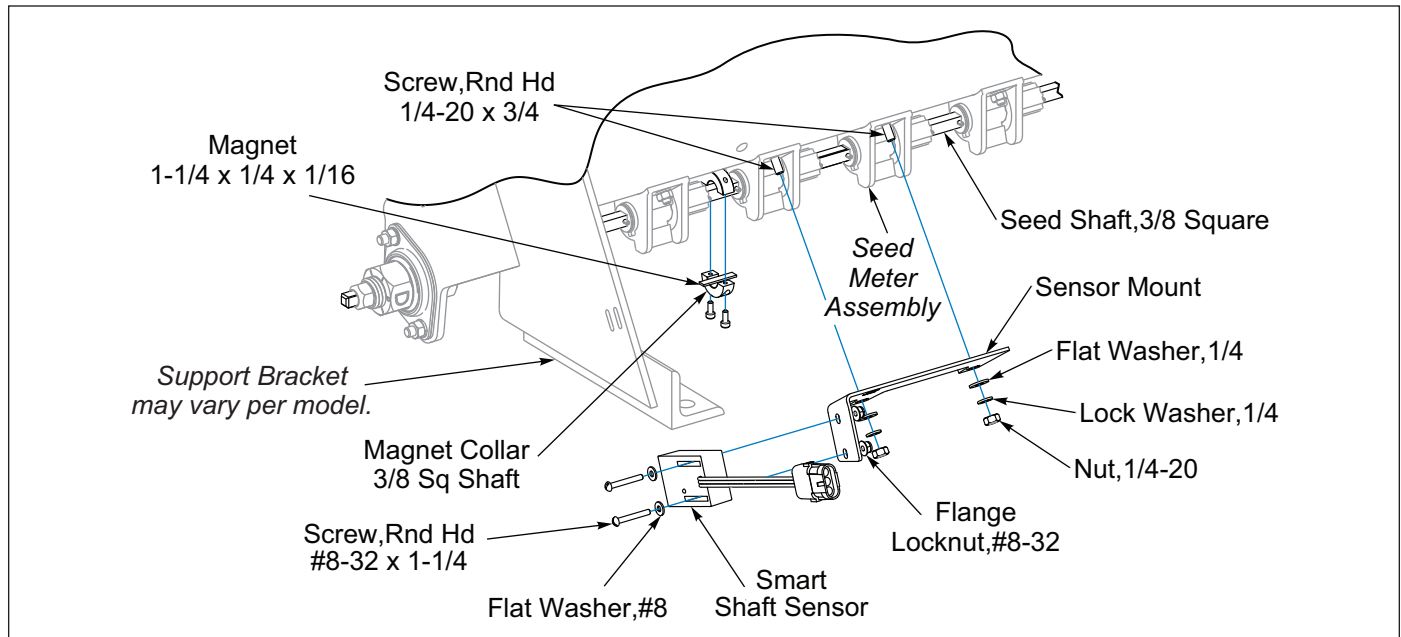

Figure 2-35: Brillion Elite Mini Monitor - Front Seed Box Seed Shaft Sensor
3. Front RH side Seed Box between the 1st and 2nd Seed Meters, place 1-1/4 x 1/4 x 1/16 Magnet on the Seed Shaft. Secure with Magnet Collar. See Figure 2-35. Remove the 2nd and 3rd Seed Meter front 1/4-20 x 5/8 Round Head Machine Screws that mounts the Seed Meter to the Seed Box and replace them with 1/4-20 x 3/4 Round Head Machine Screws. Install the Sensor Mount on the 1/4-20 x 3/4 Machine Screws. Secure with Flat Washers, Lock Washers and Nuts. Install a Smart Shaft Sensor to the Sensor Mount with sensor provided hardware and #8-32 Flange Locknuts. Adjust the Smart Shaft Sensor so that it is 1/8" Max away from the Magnet Collar on the